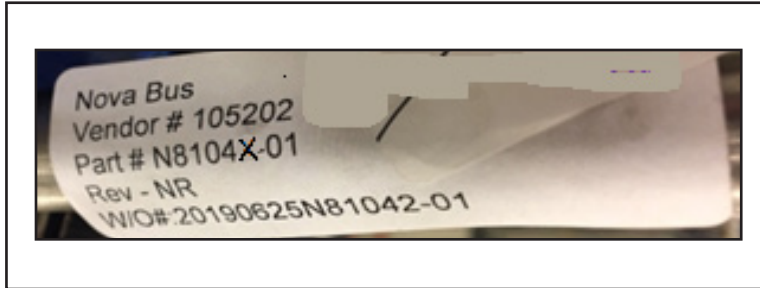

Figure 2 - Example of Label - DO NOT REPLACE PIPE
- If the label looks like the label shown in Figure 2, the pipe does **NOT** have to be replaced.